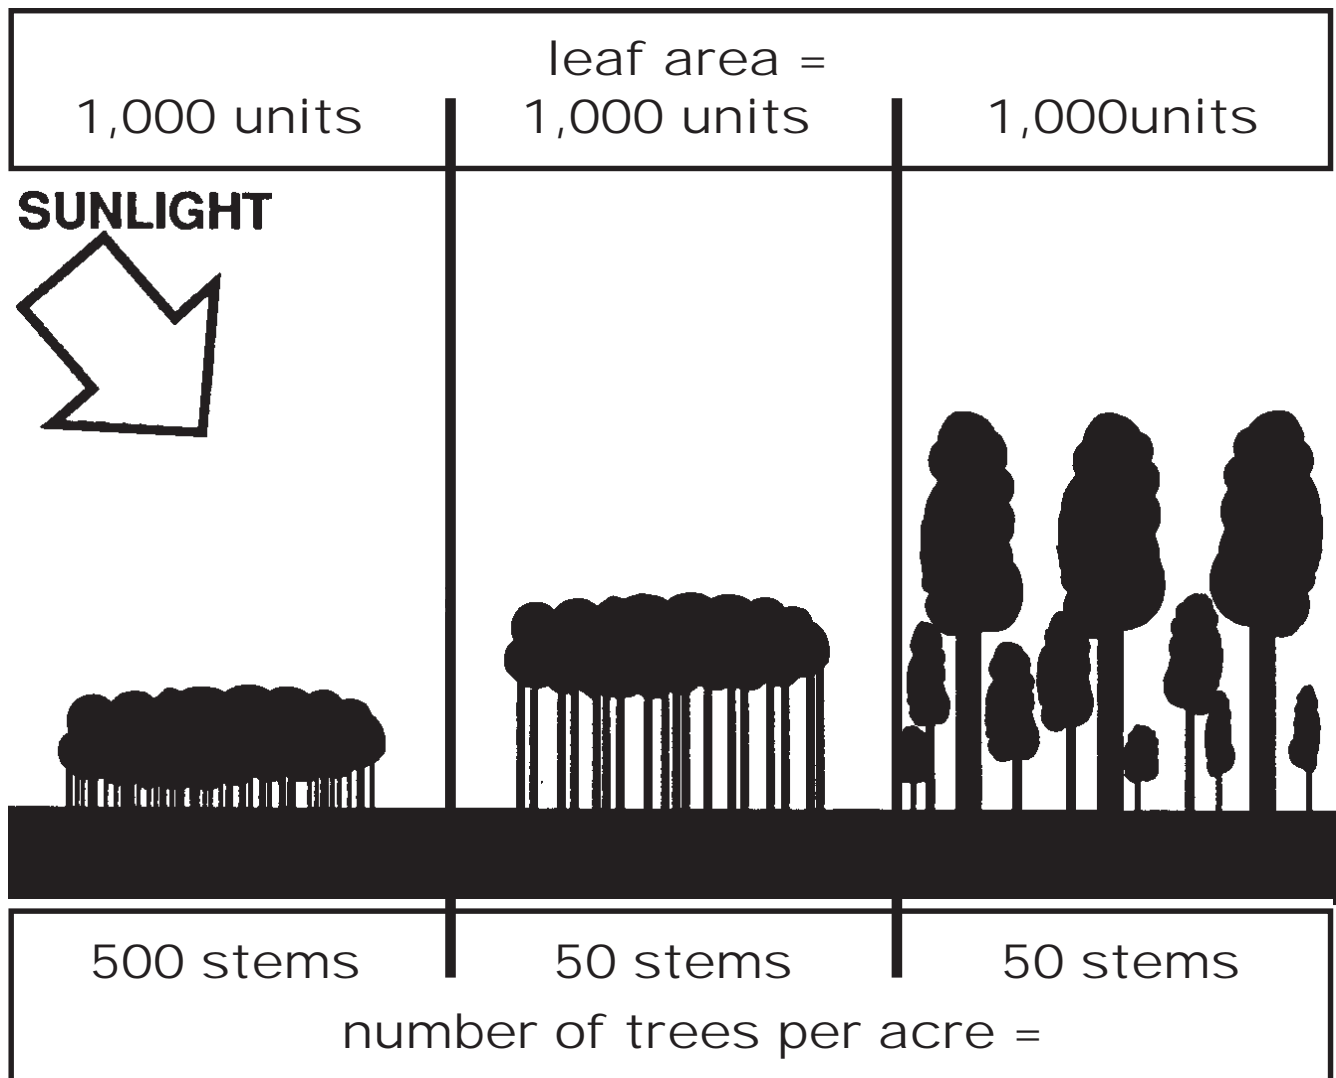

Figure 2: An ideal size distribution for a wooded appearance on a development site.
**Size.** A diversity of tree sizes is also important. There should be a mix of small, medium, and large trees. As a general perception rule for a wooded look and feel to a site, for every existing large tree (11 inches diameter or greater), there should be five medium sized trees. For every medium sized tree (5-10 inches diameter), there should be five small trees. For every small tree (1-4 inches diameter) there should be ten seedlings / saplings. Figure 2.